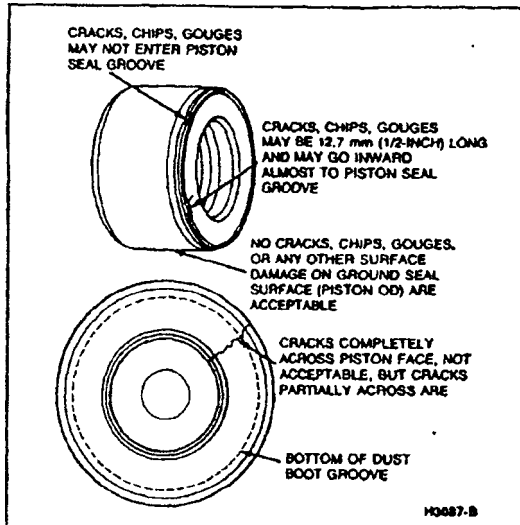

FIG. 6 Surface Irregularities of Phenolic Piston
Check the cylinder bore and piston for damage or excessive wear. Replace the piston if it is pitted or scored, or on Police vehicles if the chrome plating is worn off. The piston should also be replaced if it does not meet the requirements in Fig. 6.
1. When assembling the caliper, examine the piston for surface irregularities or small chips and cracks (Fig. 6). If necessary, replace the piston. Be sure to clean foreign material from piston surfaces and lubricate them with brake fluid before inserting it into the caliper.